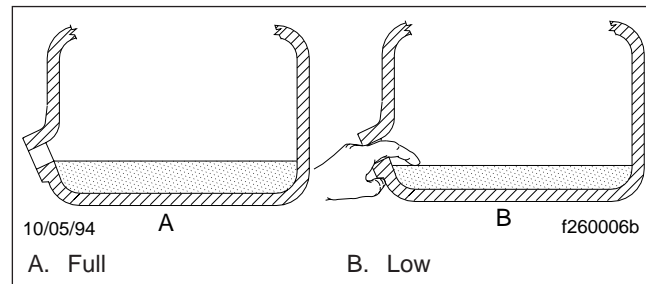
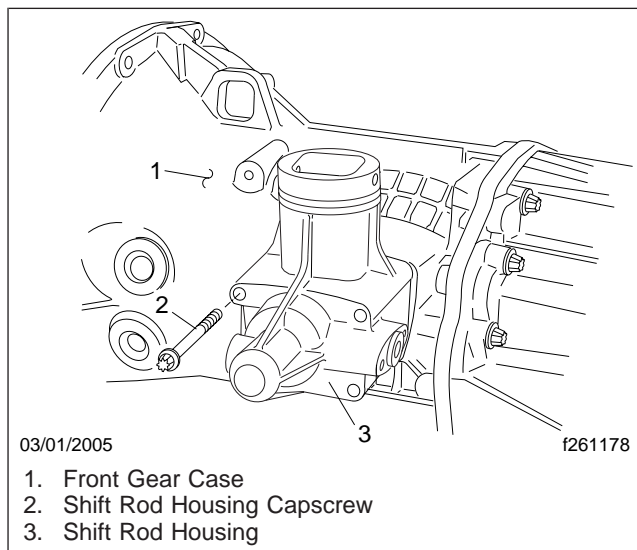

Fig. 15, Transmission Fluid Level Checking
Fig. 1, Shift Mechanism
12. Add Mobiltrans SHC® DC until the transmission fluid is level with the lower edge of the fill opening. See **Fig. 1** for the location of the fill plug and **Fig. 15** for checking the correct level. About 9.5 quarts (9.0 liters) is needed.
4. Remove the four capscrews that attach the shift rod housing to the flange on the front gear case. See Fig. 1.